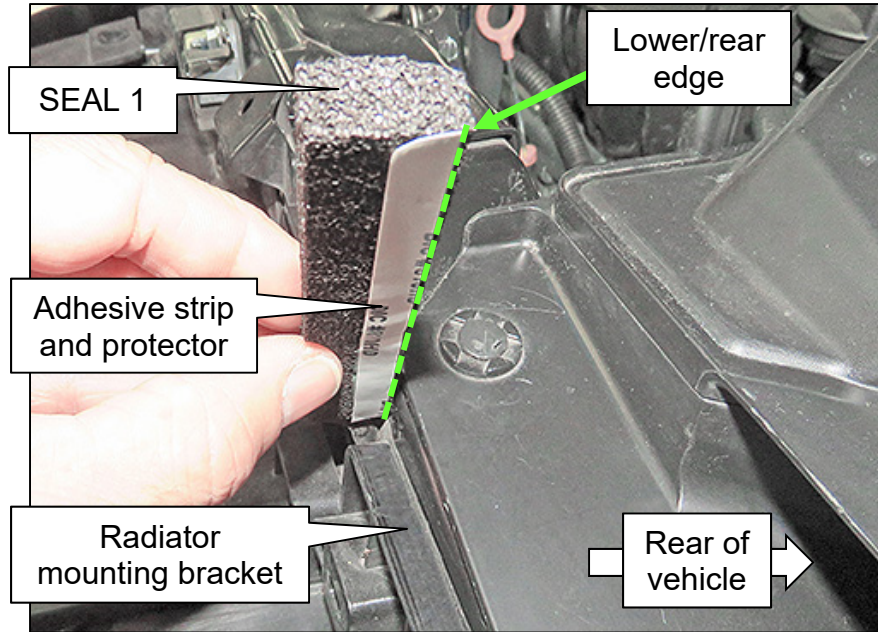
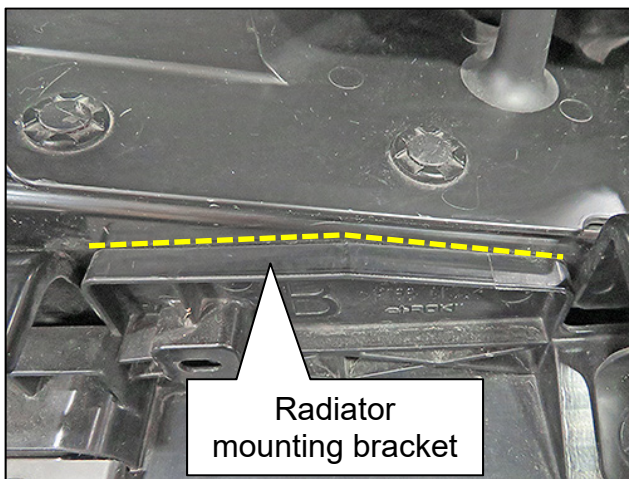

Figure 4
Figure 5
- Confirm that SEAL 1 is oriented with the adhesive strip facing down and toward the rear of the vehicle (Figure 4).
- the lower/rear edge of SEAL 1 (Figure 4) is placed on the radiator mounting bracket where shown in Figure 5,